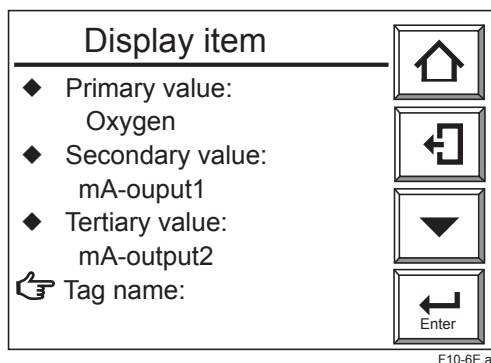

Figure 10.6 Display Item Display
- (1) Select the [Setup] key in the Basic panel display to display the Execution/Setup display. Then select the “Maintenance” in the Execution/Setup display.
- (2) Select the “Display setup” in the Maintenance display.
- (3) Select the “Display item” in the Display setup display. The display shown in Figure 10.6 then appears.
- (4) Select the “Tag name” in the Display item display. The text-data entry display then appears.
- (5) Enter up to 12 alphanumeric characters including codes for the desired tag name.